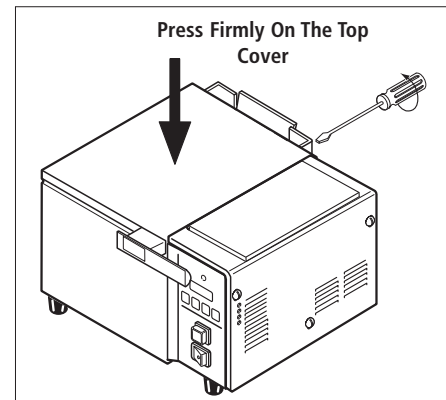

Figure 9. Top Cover Adjustment
1. With the top cover closed, loosen the four rear hinge bracket screws (Figure 9) one turn only.
2. Push down on the top cover heavily (Figure 9). This ensures the gasket is seated squarely around the Generator. While maintaining the downward pressure, re-tighten the screws.